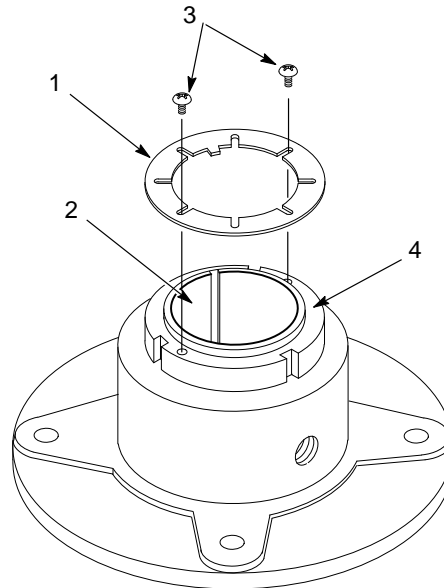
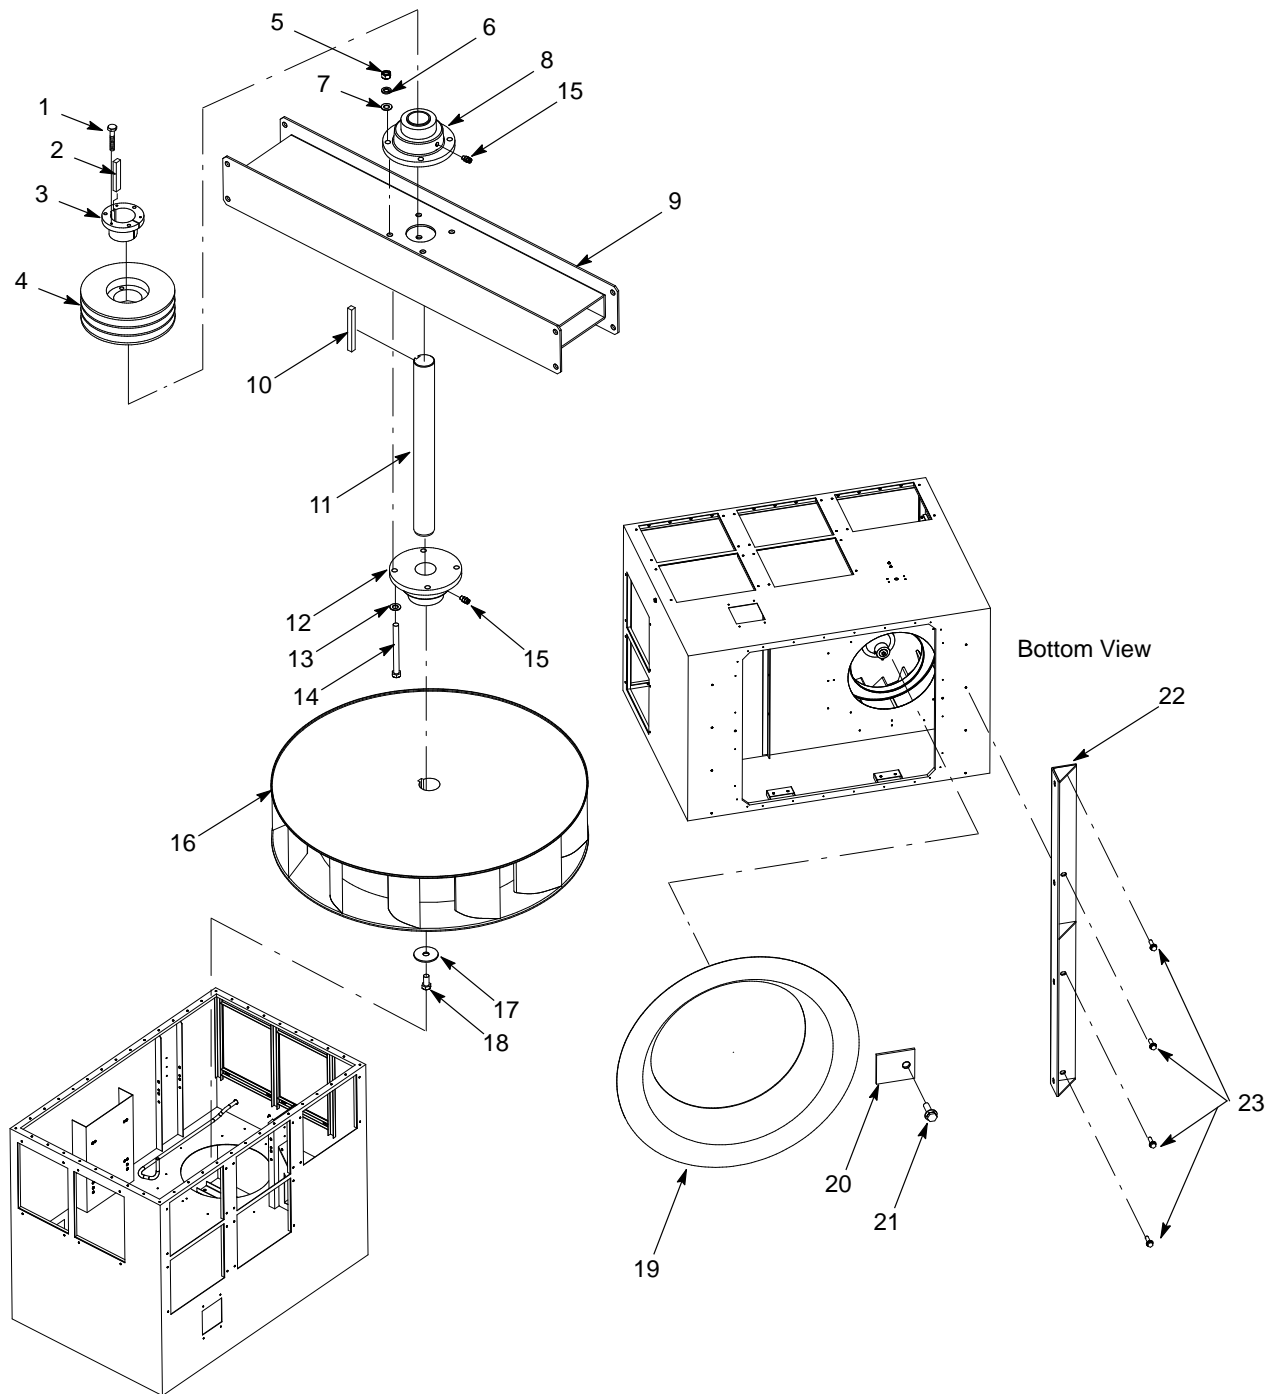

Figure 6-13 Fan Shaft Bearing
Figure 6-14 Fan, Sheave, Shaft, and Bearing Replacement
2. See Figure 6-14. Remove the bolts (21), retainers (20), and the inlet cone (19) from the fan section.
3. Loosen the key and shaft set screws in the hub of the fan (16).
4. Block up the fan. Remove the screw (18) and flat washer (17) from the bottom of the shaft (11).
5. Remove the blocks, fan, and key (10) from the fan section.
2. See Figure 6-14. Unscrew the three cap screws (1) and remove them from the unthreaded holes in the bushing (3). Thread the screws through the threaded holes in the bushing until they bottom out on the sheave (4) hub.
4. Pull the sheave, bushing, and key (2) off the fan shaft. Remove the screws from the bushing.
2. See Figure 6-13. Remove the lock plate (1) then loosen the locknut (4) to loosen the inner bearing races.
3. See Figure 6-14. Pull the fan shaft (11) out of the bearings (8, 12).
4. If you are replacing the shaft, remove the fan sheave (4), bushing (3), and key (2) from the shaft as described in the *Fan Sheave Replacement* procedure.
5. If you are replacing the bearings, disconnect the tubing from the tube fittings (15). Remove the screws (14), washers (6, 13), and nuts (5) securing the bearings to the support (9).
2. See Figure 6-14. Install the new bearings on the supports with the screws (14), washers (6, 13), and nuts (5). Do not tighten the screws. Connect the tubing to the tube fittings (15).
3. Apply a coating of light oil to the shaft (11) where the bearings will be mounted.
4. Place the lock plate (Figure 6-13, item1) on each bearing, but do not install the screws yet.
2. See Figure 6-14. Install the fan (16) and key (10) on the shaft (11). Tighten the key set screw in the fan hub to hold the fan in place. Install the flat washer (17) and screw (18) on the end of the shaft.
4. Adjust the upper, expansion bearing (8):
- a. See Figure 6-13. Turn the lock nut (4) by hand as tightly as possible. Wear gloves while tightening the lock nut.
- b. Scribe a line on the lock nut at the adapter slot (2). The line and adapter slot will serve as reference points as you tighten the lock nut.
- d. Install the lock plate (1) on the bearing and secure it with the screws (3).